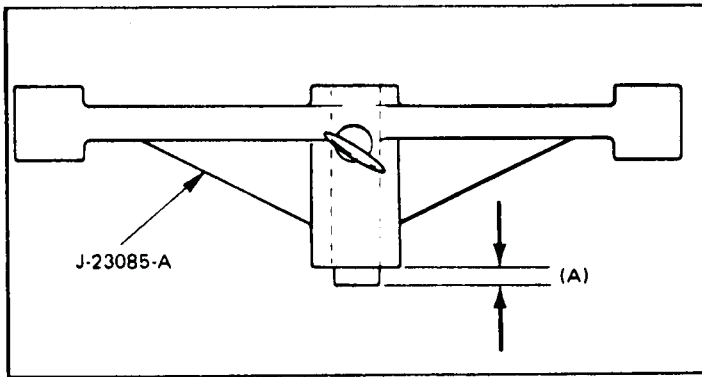

Figure 106
4. Measure distance (A), as shown in Figure 106.